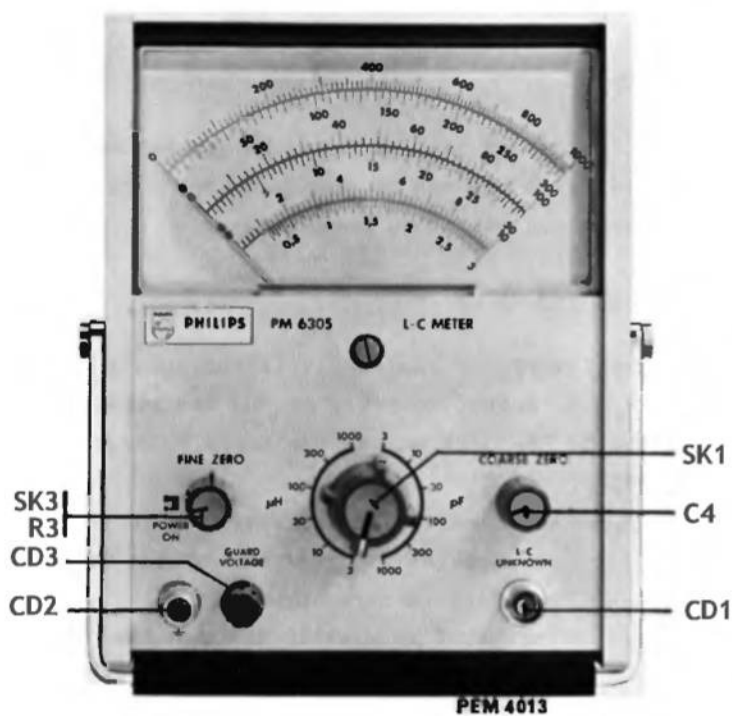

Fig. 2. Front View
E. CONTROLS, SOCKETS AND TERMINALS (Fig. 2)